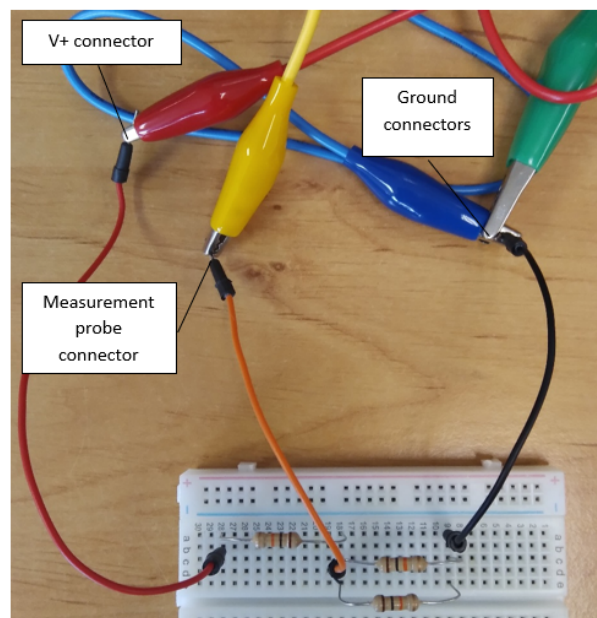

Figure 90: Connector wires from the power supply (Figure 88) and multimeter (Figure 89) attached to the circuit from Figure 87.
7. The cables from the power supply and the multimeter are connected as shown in Figure 90. The ground of the multimeter must be connected to the same cable connected to the 'COM' port of the power supply.